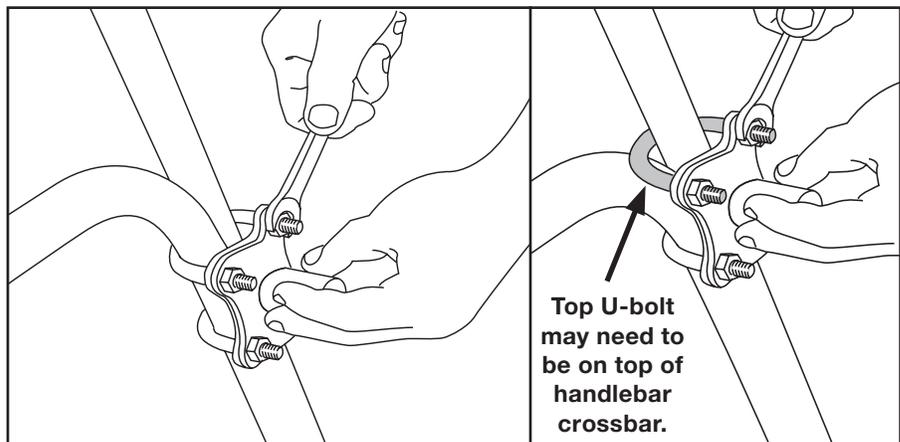

Fig. 2
2. Install two Nylock nuts [O] to each U-bolt. Snug but do not fully tighten. Leave the nuts loose for final adjustments of the mounting posts. (Fig. 2)